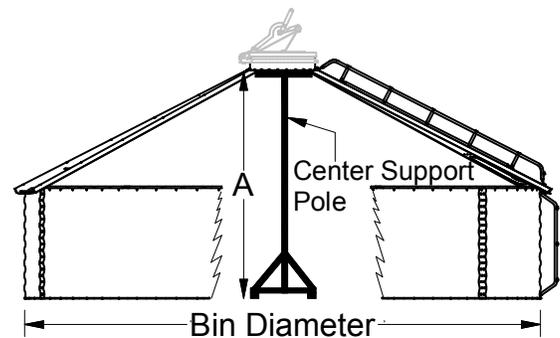

Fig. 2
3. Before beginning roof panel assembly, build a center support to hold the roof flange in place at the proper height as shown in Fig. 2, during roof erection. Refer to the table Fig 3. for proper roof support height according to different bin diameters. Assemble the first four roof panels to the roof rim with 3/8 x 1-1/4 bin bolts, nuts and washers. Split the panel installation into four quadrants.